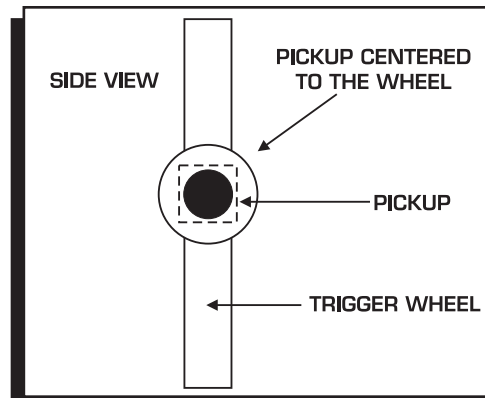

Figure 3 Pickup Centered on the Trigger Wheel.
4. Check and make sure the wheel is positioned correctly with the pickup and torque the trigger wheel bolts to 25 - 30 lb-ft. The pickup should be centered to the center line of the trigger wheel (Figure 3). If not, it may be necessary to add or delete shims to the pickup bracket to achieve the proper position.